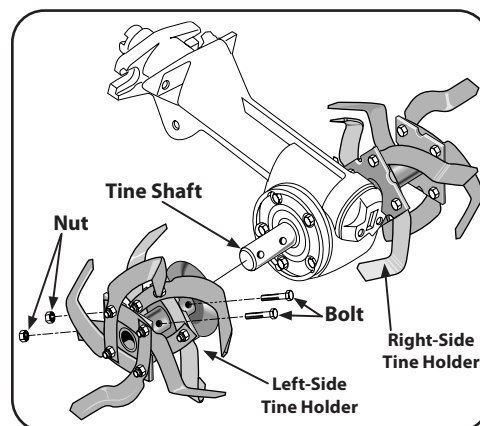

Figure 5-33
5. Use two 9/16" wrenches to remove the two bolts and nuts securing the tine to the tine holder plate. See Figure 5-33. Use penetrating oil on the hardware if it is rusted or hard to remove.
3. Remove the two bolts and nuts securing each holder. See Figure 5-33.